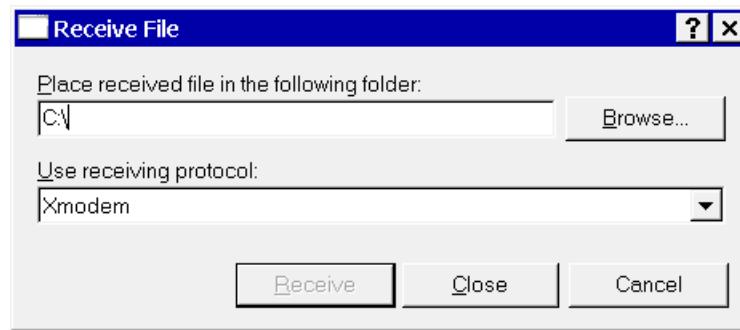

Figure 49: Receive File Settings
- Enter a folder where to save the file and use the XMODEM protocol. (See figure 49)